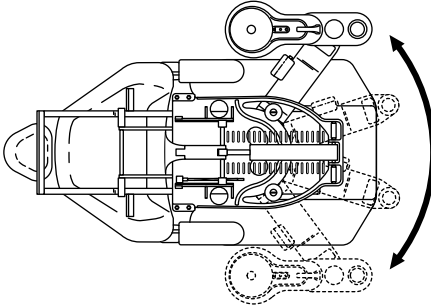

Figure 13. Rotate the Unit and Adapter
5. Rotate the unit and adapter to the opposite side and position against the stop (see Figure 13).